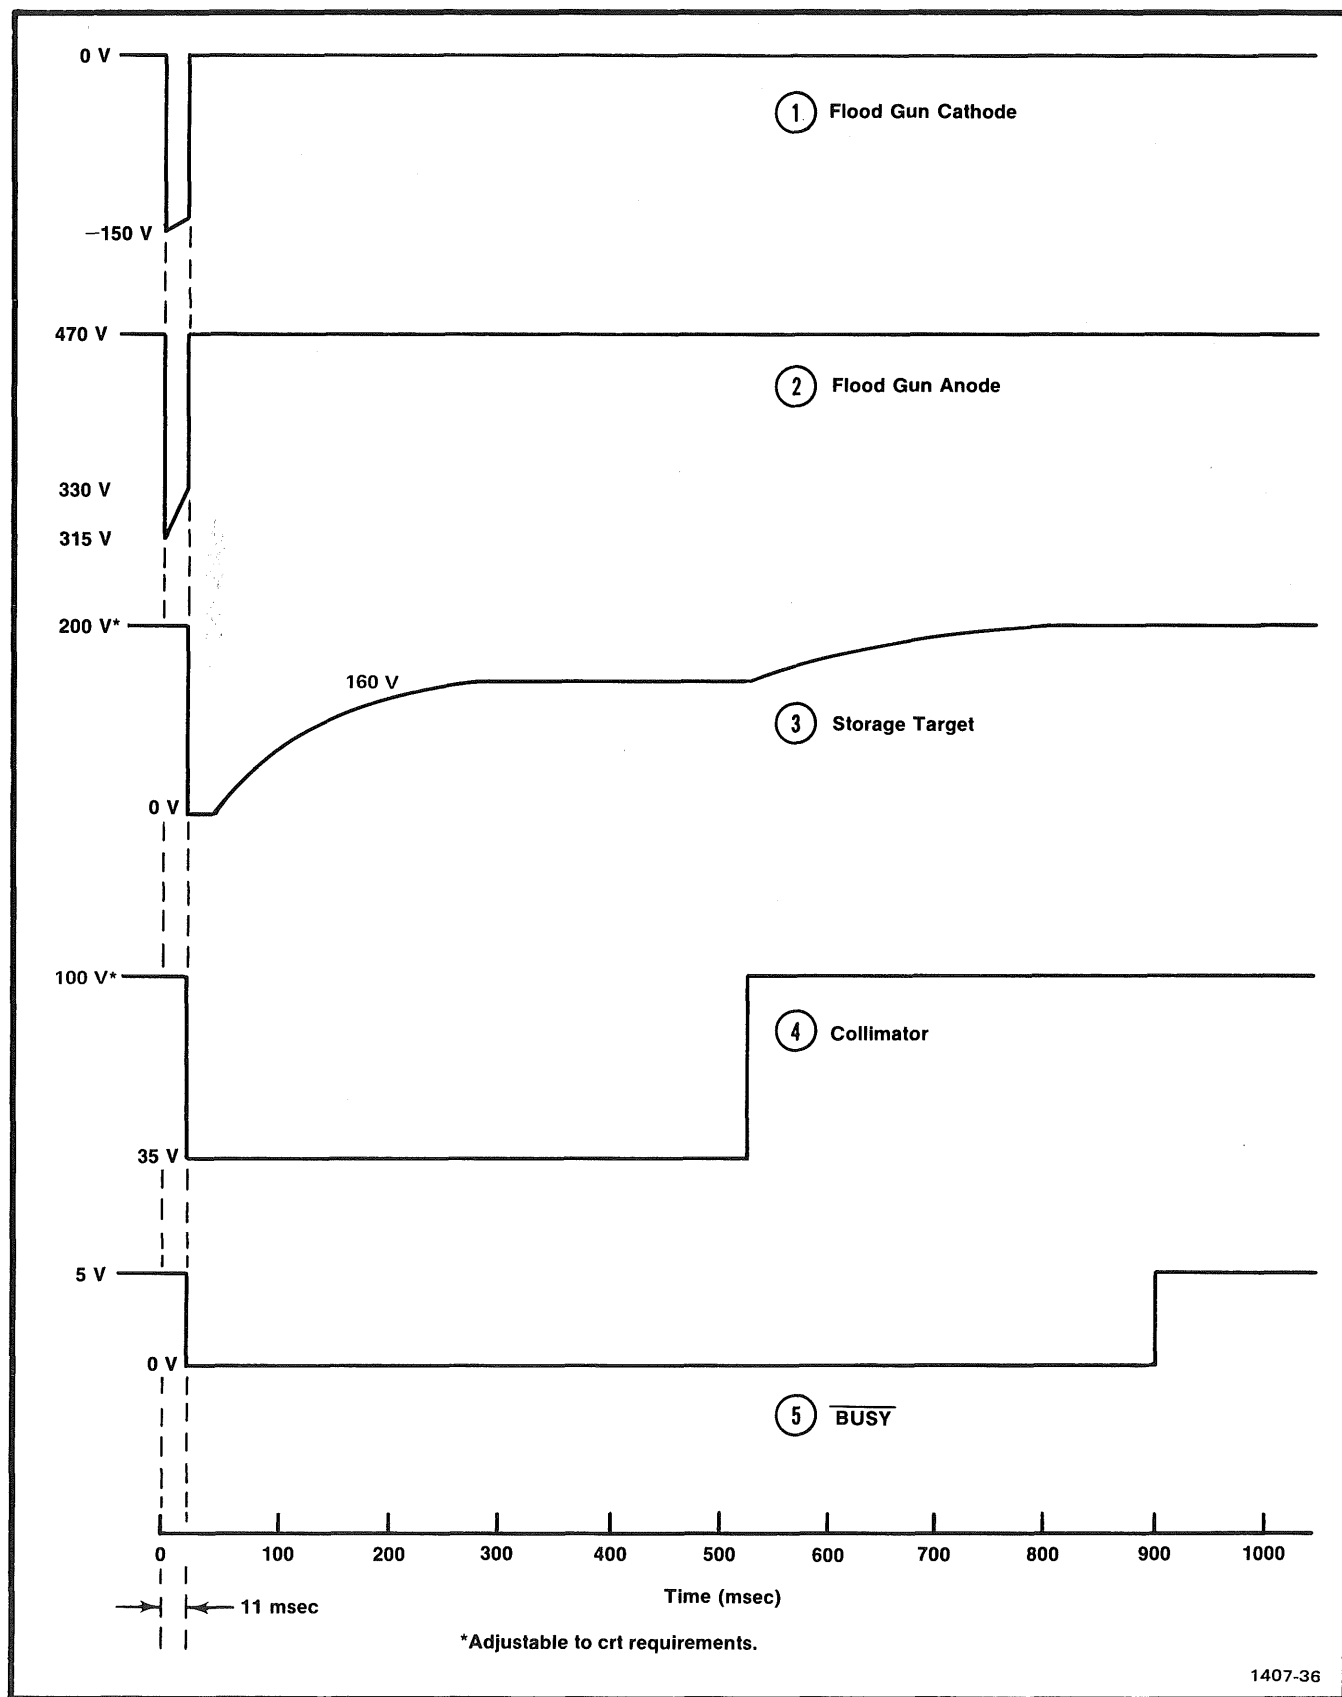

Fig. 3-5. Erase Sequence waveforms.
a. Connect the 10X probe to the — side of C12 on the Storage board (J46 pin 3) and press the ERASE button on the 613. Check for a test oscilloscope display similar to waveform 1 of Fig. 3-5. This is the Flood Gun Cathode waveform.
b. Connect the 10X probe to J42 (emitter of Q53), press the VIEW and the ERASE buttons and check for a test oscilloscope display similar to waveform 2 of Fig. 3-5. This is the Flood Gun Anode waveform.
d. Connect the test probe to J46 pin 1 and set the Time/Div at 0.1 second. Press the ERASE button and check for a test oscilloscope display similar to waveform 3 of Fig. 3-5. This is the Storage Target waveform. Trigger on the negative-going pulse edge.
e. Connect the test probe to J46 pin 2. Press the ERASE button and check for a test oscilloscope display similar to waveform 4 of Fig. 3-5. This is the Collimation waveform.
g. Press the ERASE button and check for a test oscilloscope waveform similar to waveform 5 of Fig. 3-5. This is the BUSY waveform.